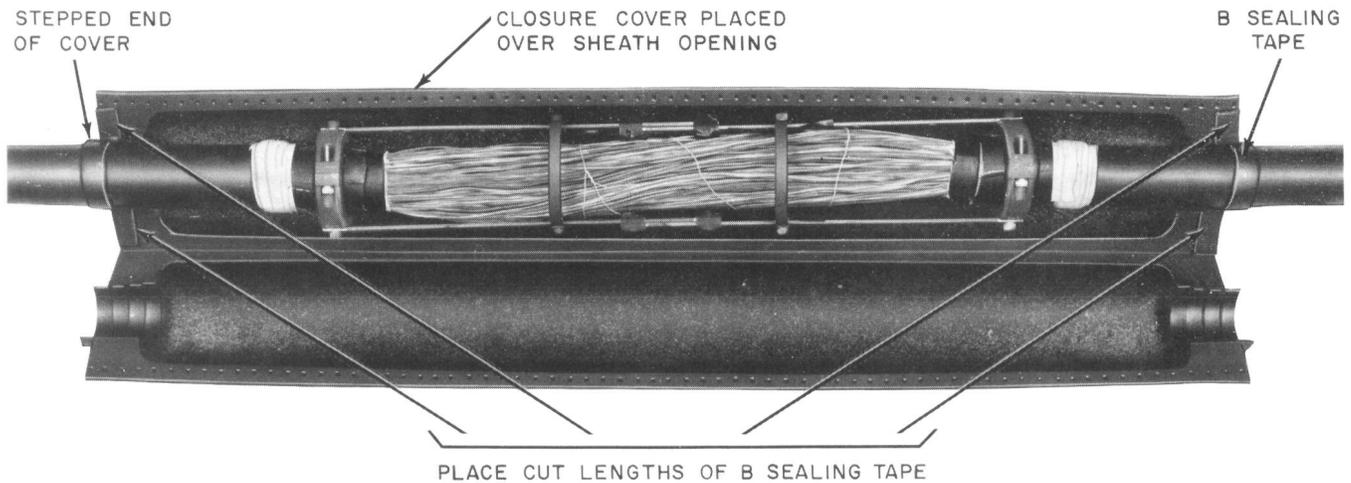

Fig. 10—Closure Cover Placed
4.09 At each end of the closure cover, place cut lengths of B sealing tape (Fig. 10). Position the closure cover over the sheath opening as illustrated in Fig. 10.